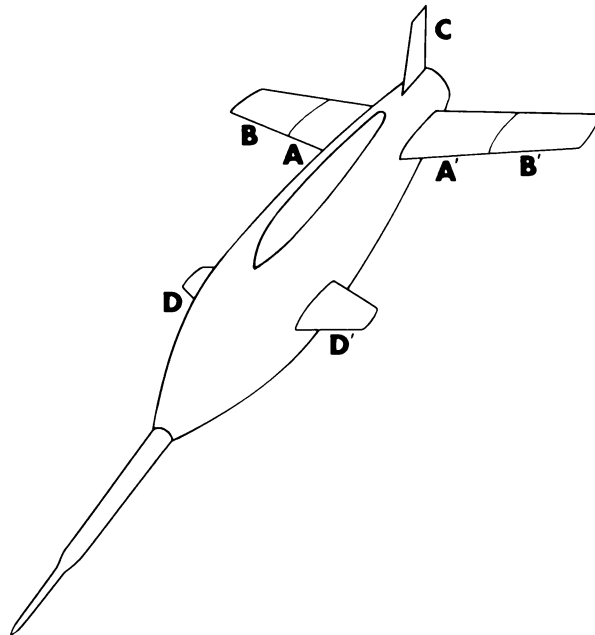

Figure 1E.—Missile in level flight attitude.
57. All of the airfoils on the missile shown in figure 1E are of the type called control surfaces except
58. What two airfoils on the missile shown in figure 1E must be turned in the same direction in order to control yaw?
59. The roll of the missile shown in figure 1E can be controlled by rotating which of the following airfoils in opposite directions?
60. The pitch of the missile shown in figure 1E can be controlled by rotating which of the following airfoils in the same direction?
61. Missiles with the type of control used in the missile shown in figure 1E are usually subject to which of the following limitations?
62. The missile shown in figure 1E has two sets of airfoils for pitch control. Under which of the following flight conditions might both sets be required simultaneously to furnish sufficient control?